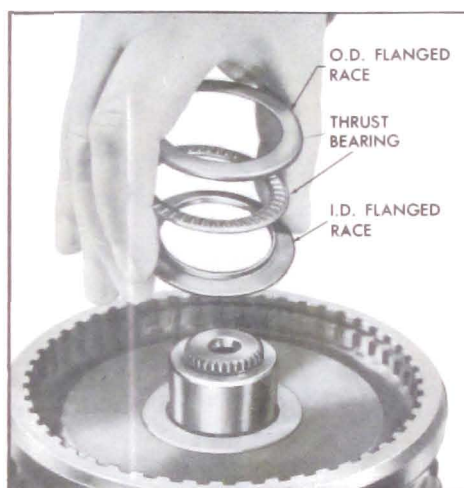

Figure 5-565
11. Remove output shaft to rear internal gear thrust bearing and two (2) races. See Figure 5-565.